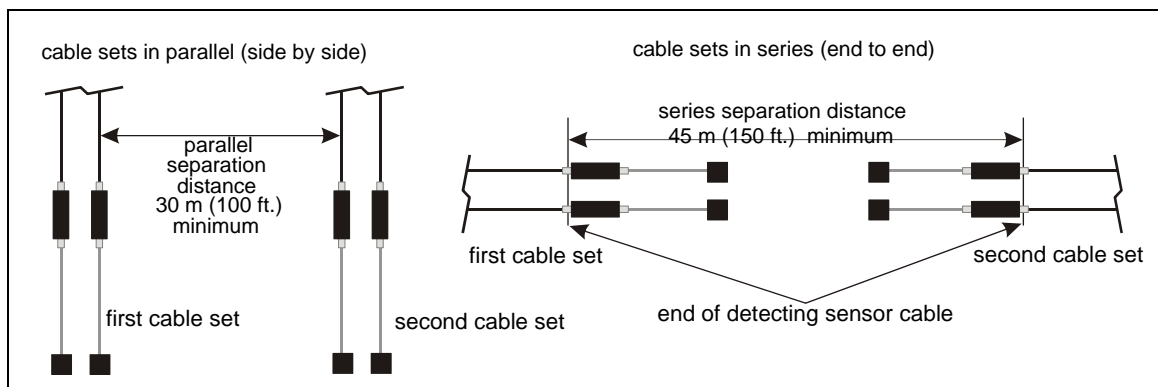

Figure 14: Cable set separation distances for unsynchronized processors
- **Unsynchronized processors** are independent (standalone) OmniTrax systems and must follow minimum separation distances between the two cable sets to prevent mutual interference. Figure 14: illustrates this concept.